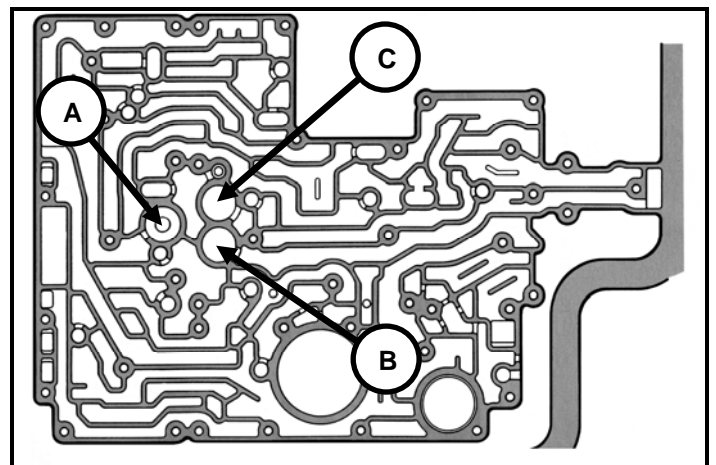

Figure 3
1. **Very Important.** Check the part of the case where the three (3) center support bolts are located. (See circle in **Figure 3**.) Take a straight edge or valve body spacer plate and a .001" feeler gauge. Lay the straight edge over the bolt holes at the center support. If the feeler gauge will slide under the straight edge, work that area with a file or stone until the case is perfectly flat. If the case is badly distorted, use two case gaskets when reassembling. Torque bolt A to 6-10 ft.-lbs. and bolts B & C to 8-12 ft.-lbs. using a 13mm socket. We also recommend using thread locking compound on these bolts.